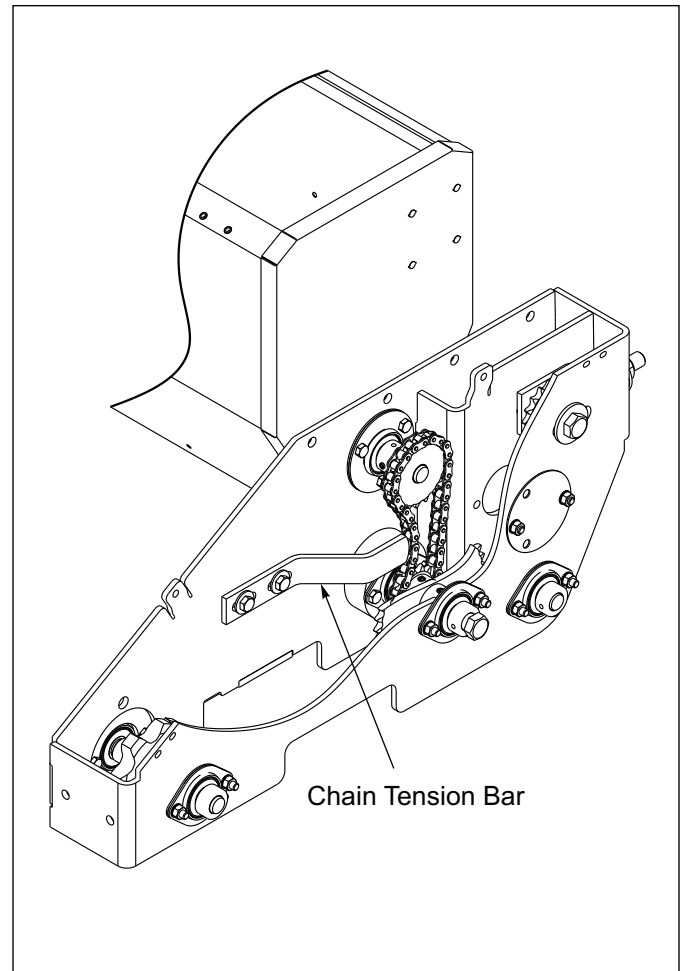

Figure 2-24: Chain Tension Bar
12. Check chain tension bar to be sure it aligns very closely with chain. Bend slightly if needed and install using 3/8-16 x 1-1/4 Bolts, Flat Washers, Lock Washers and Nuts. **See Figure 2-24.**